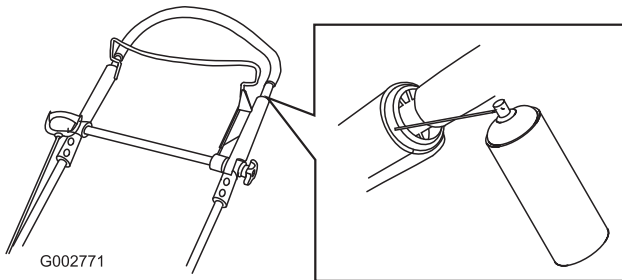

Figure 42
- Spray the outer plastic end of the inner handle (Figure 42).